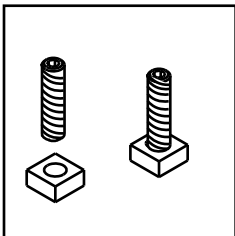

Figure 9A
1. Thread Allen bolts through nuts until flush. **Figure 9A.** The Allen bolts and nuts are included in the component pack inside the stove firebox.